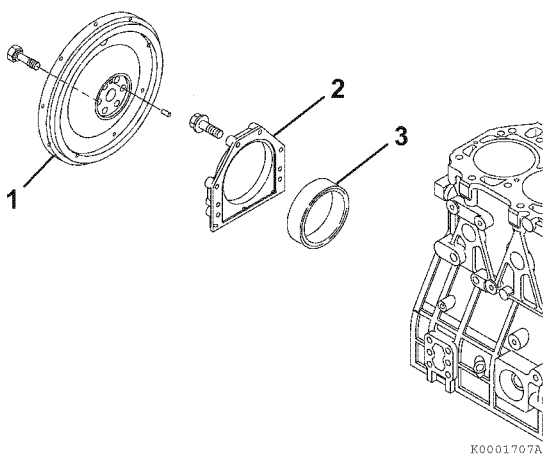

Figure 6-65
3. Remove the rear oil seal (**Figure 6-65, (3)**) from the seal housing (**Figure 6-65, (2)**).
4. Apply a continuous bead of ThreeBond Liquid Gasket No. 1207F, YANMAR Part No. 977770-1207F to the outside diameter of a new oil seal (**Figure 6-65, (2)**), and install in the housing. Apply lithium grease to the lip of the seal.